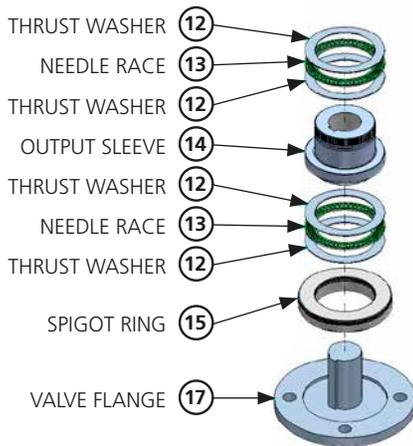
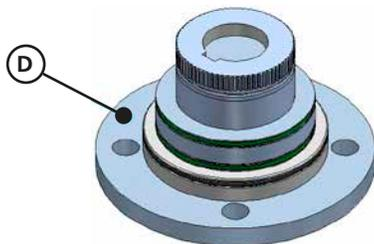

Figure 12 – Valve stem assembly
Figure 13 – Valve stem (assembled)
Check that the diameter of the male spigot supplied with the gearbox (Part 15 in Figure 12) matches the female spigot recess in the valve bonnet flange before assembling the gearbox onto the valve.
In addition to the points in Section 7.2.1, it is recommended that the machined output sleeve assembly is assembled onto the valve stem first and then the gearbox lowered onto the output sleeve assembly. See Figure 12 and Figure 13 for assembly details.
Fit the machined output sleeve (14), thrust bearings (12 & 13) and baseplate spigot ring (15) on the valve shaft as shown in the Figure 12. Bearings should be lubricated with the appropriate grease (see Table 5). Grease the bearings, output sleeve and valve stem. Note that the spigot ring has an internal and external seal that should also be greased.